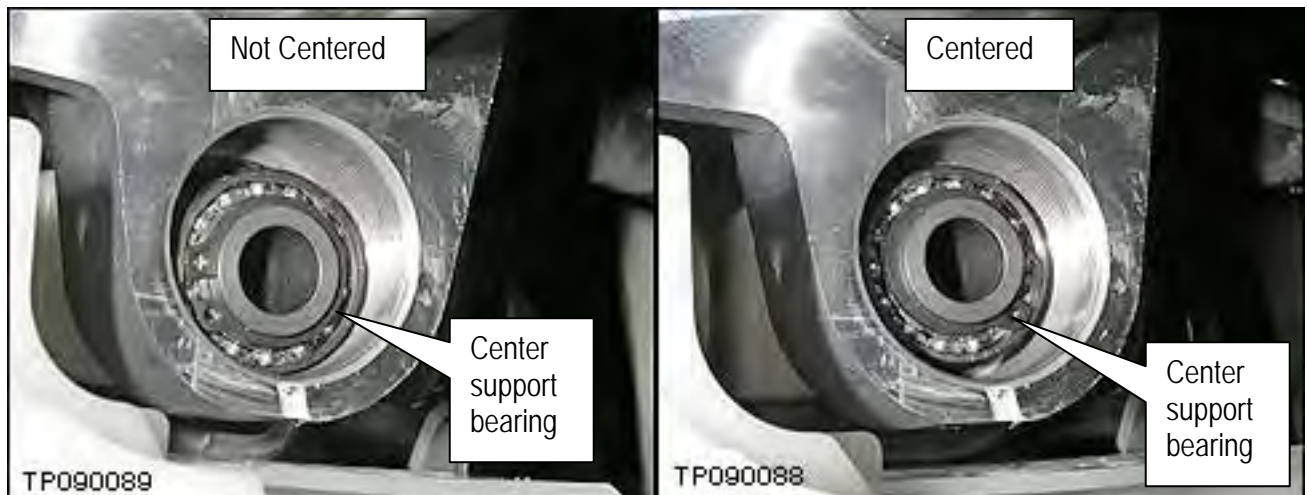

Figure 30
21. Hold the steering wheel and move it up or down (just a little) as needed to get the center support bearing centered (see Figure 30).